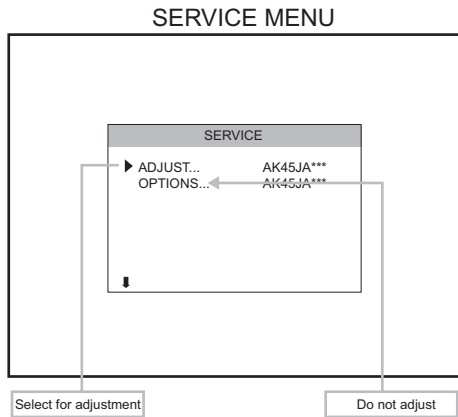

Fig.1
- (1) Press the [INFORMATION] key and [MUTING] key simultaneously in the main menu, and the SERVICE MENU screen (Fig.1) will be displayed.